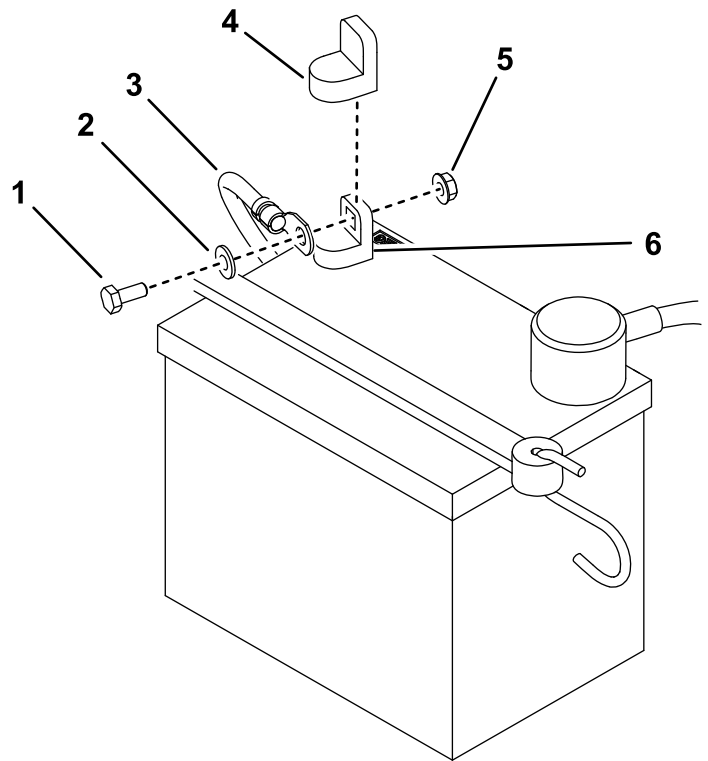

Figure 2
3. Remove the fasteners on the negative battery cable, and use them to secure the negative battery cable to the negative battery post (Figure 2).